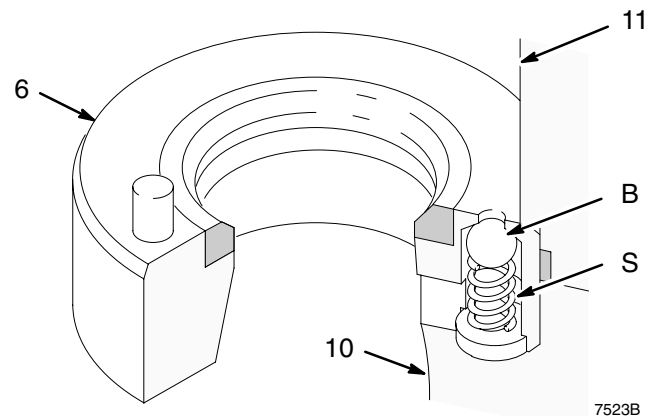
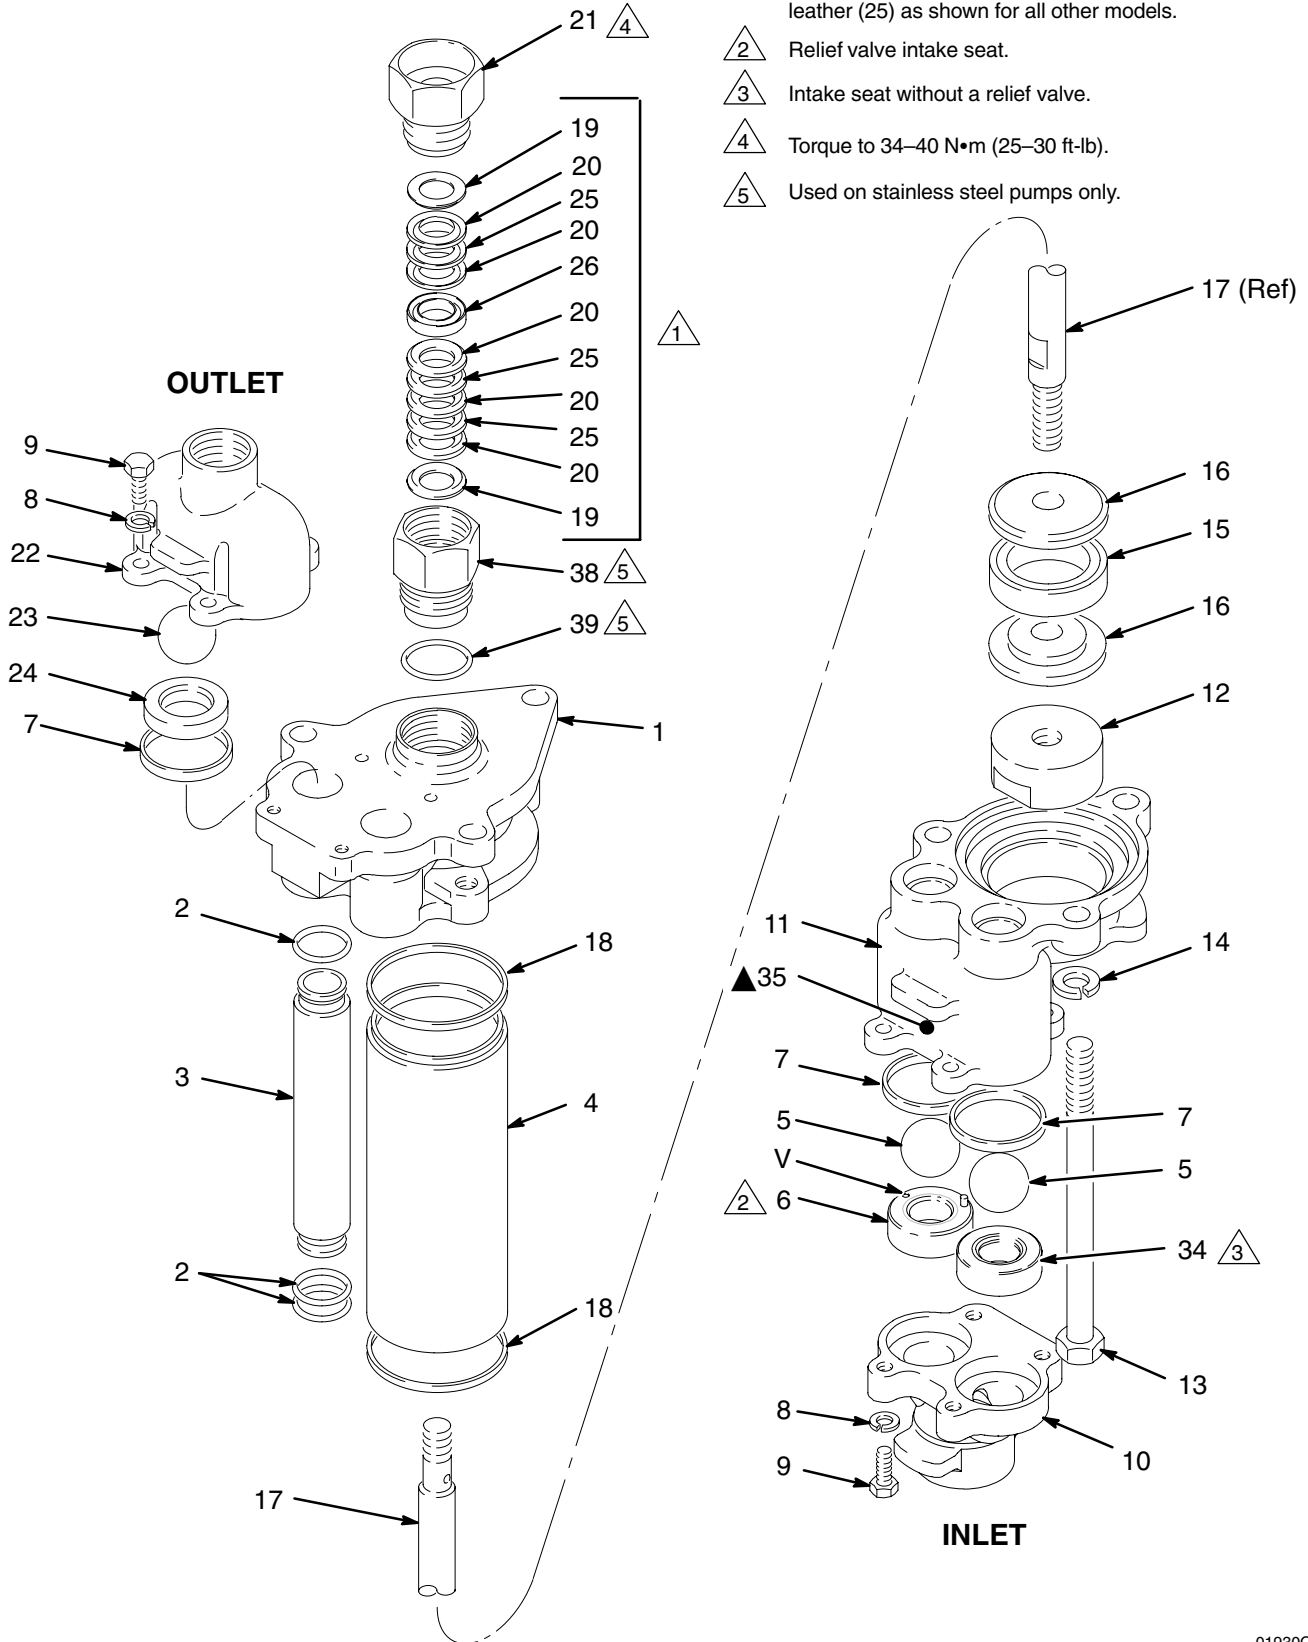

Fig. 12
Fig. 13
2. Secure the displacement pump intake housing (10) in a vise.
3. Refer to Fig. 13. Loosen but do not remove the packing nut (21) and the cartridge (38, used on stainless steel pumps only).
4. Remove the four capscrews (9) and washers (8) from around the pump outlet housing (22).
5. Remove the outlet housing (22), balls (23), seats (24) and gaskets (7).
6. Remove the three tie bolts (13) and lockwashers (14). Lift off the upper pump housing (1), along with the fluid tubes (3), cylinder (4), and piston assembly (16).
7. Remove the packing nut (21). *On stainless steel pumps only*, remove the throat cartridge (38) and o-ring (39).
- NOTE:** Model 239859, 239860, 240612, and 240613 displacement pumps use 8 PTFE v-packings (20) in the throat, instead of 5 UHMWPE (20) and 3 leather (25) as on all other models.
9. Remove the tubes (3) and cylinder (4) from the housing (1). Pull the piston assembly out of the cylinder.
10. Remove the intake housing (10) from the vise.
11. Remove the four capscrews (9) and washers (8) from the intake housing (10). Use a flatblade screwdriver inserted between the lower pump housing (11) and the intake housing (10) to separate them.
**NOTE:** One intake seat (6) includes a pressure relief valve (V). This seat must be located exactly where shown (the left side as viewed in Fig. 13).
12. Remove the balls (5), intake seats (6 and 34), and gaskets (7).
13. Inspect the pressure relief valve in the seat (6) to make sure it is not clogged. Press down on the valve's ball (B) to see if the ball and the spring (S) are free to move. See Fig. 12.